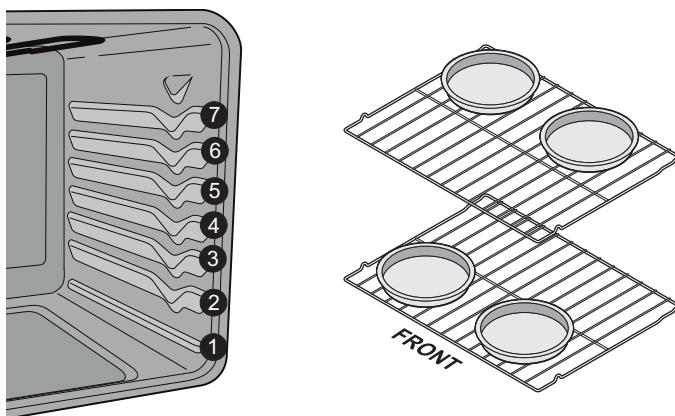

Figure 22: Rack positions and pan placement
- For best results when baking layer cakes using two oven racks, place racks in positions 3 and 5 and place pans as shown in Figure 22.